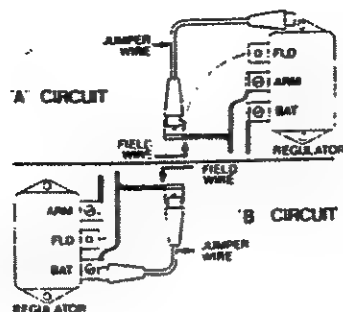

Fig. 9
8. Disconnect Field Terminal at Regulator. Use a "jumper lead" to make connections as shown in Fig. 9 below.